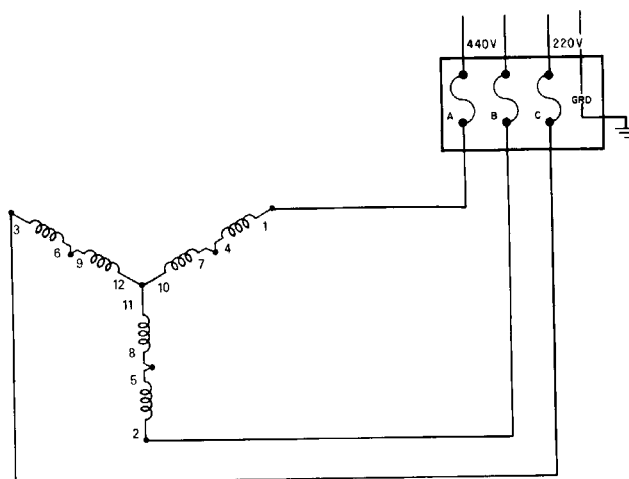

Figure 17, Three-Phase Wye-Connected Motor For High Voltage
- Figure 17 shows a schematic diagram of a wye-connected motor for high voltage.